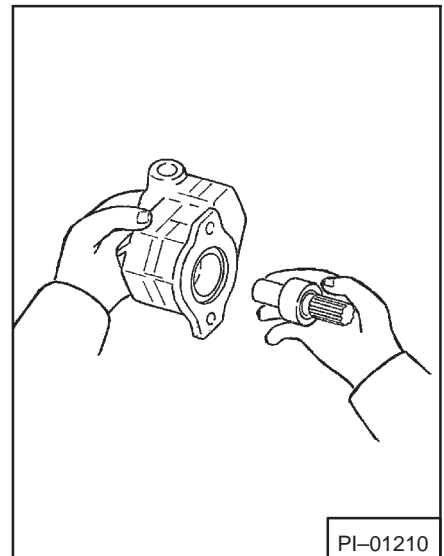

Fig. 4-29 Remove Drive Shaft
4. Pull the pump drive shaft out of pump (Fig. 4-29). The ball bearing will come with it.
3. Install drive shaft into the body (Fig. 4-29).